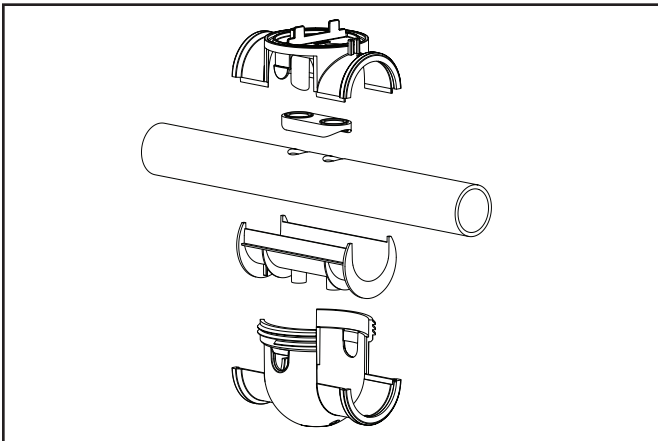

Figure 10. Removing Saddle Clamp from Pipe
6. Press the two (2) push-buttons on either side of the upper clamp to separate the upper clamp from the lower clamp (see Figure 10).